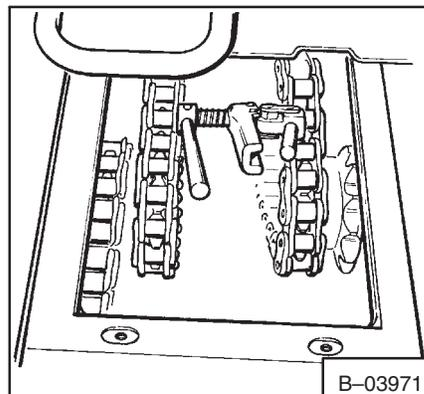

**Fig. 4-13** Breaking The Front
5. Use a chain breaker tool MEL1045 to break the drive chain (Fig. 4-13 & 4-14).